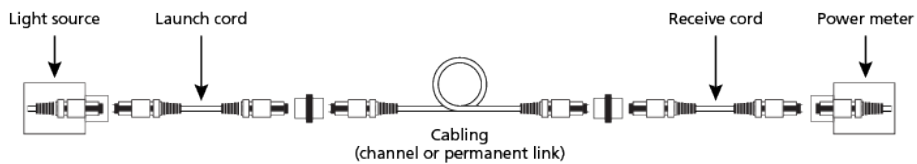

Figure 16. Make the measurement
2. Replace the substitution cord with the cabling under test using the adapters attached to the cabling (see figure 16).